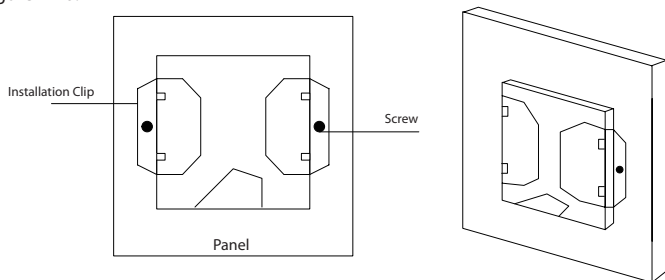

Figure 2-18 Use clips to affix the Display Module
3) Install the Display Module into the Cut Out. The module front panel will appear at the front of the Cut Out, the Meter Base case and wiring terminals will appear at the back of the Cut Out. Then, put on two installation clips following the grooves at the back of Display Module, and push forward to tighten the clips. Make sure the clip and the panel are joined tightly. Tighten the screws as Figure below shows and the installation is completed. See Figure 2-18.